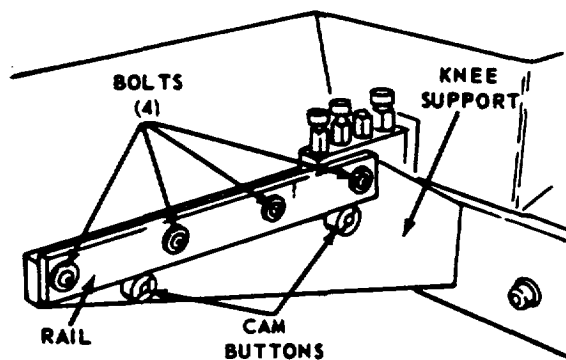

FIGURE 109
- (2) See Figure 109. Use a 5/32-inch hex wrench to loosen the four Screws that attach Rail to Knee Support. Also loosen the two Cam Buttons, and lower the Rail.